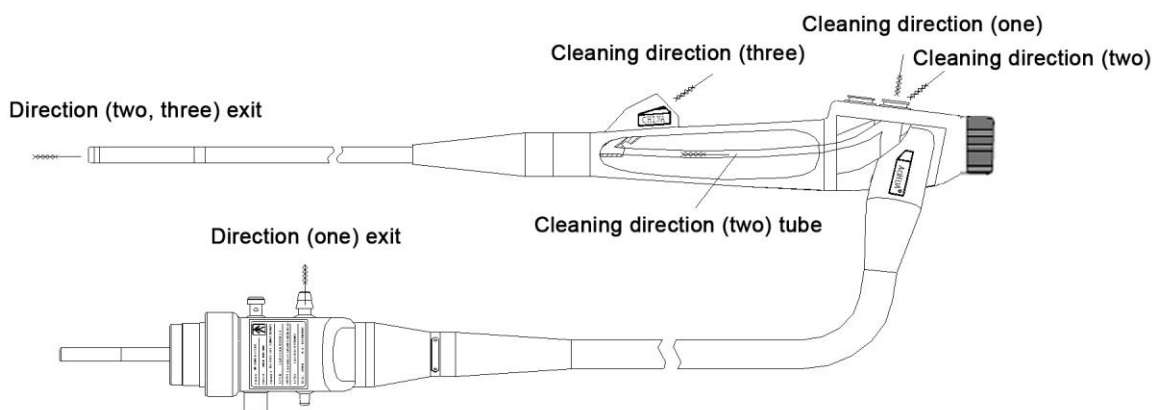

Figure 4.2
- △ Insert a cleaning brush into the instrument channel and the suction cylinder to brush the inner wall of the instrument channel tube. (See Figure 4.2)